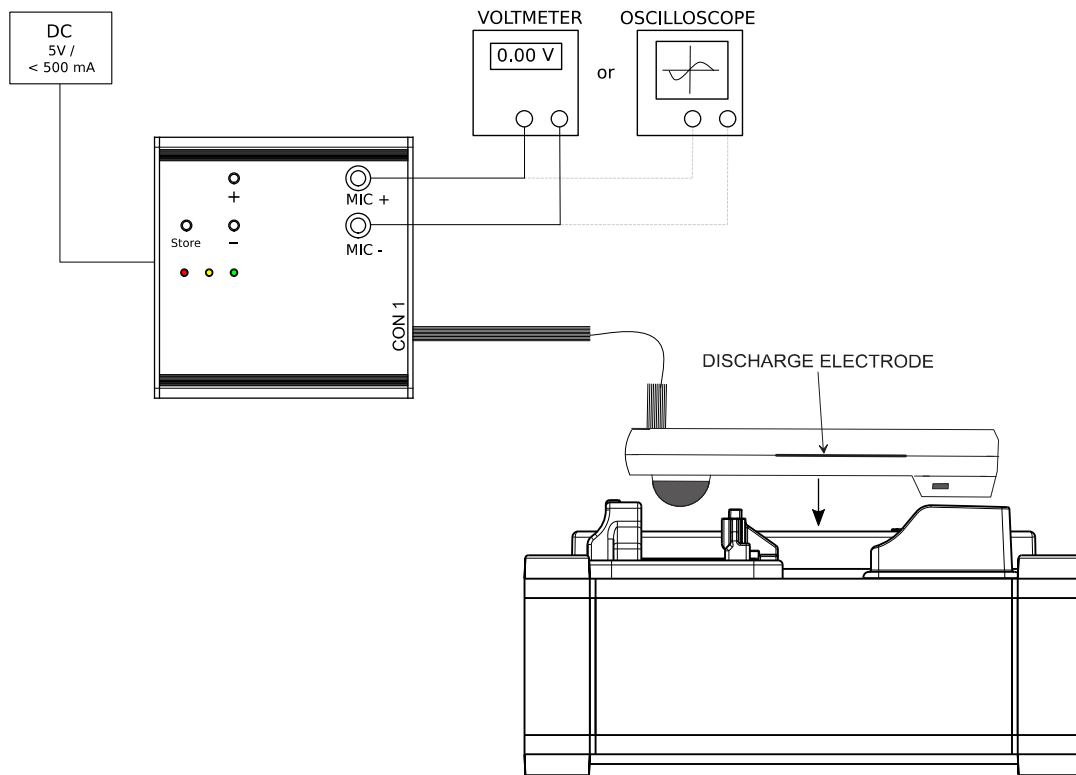

Figure 15: Setup with Aircraft Acoustic Tester
- v. Put the handset onto the Aircraft Acoustic Tester. (See figure 15)